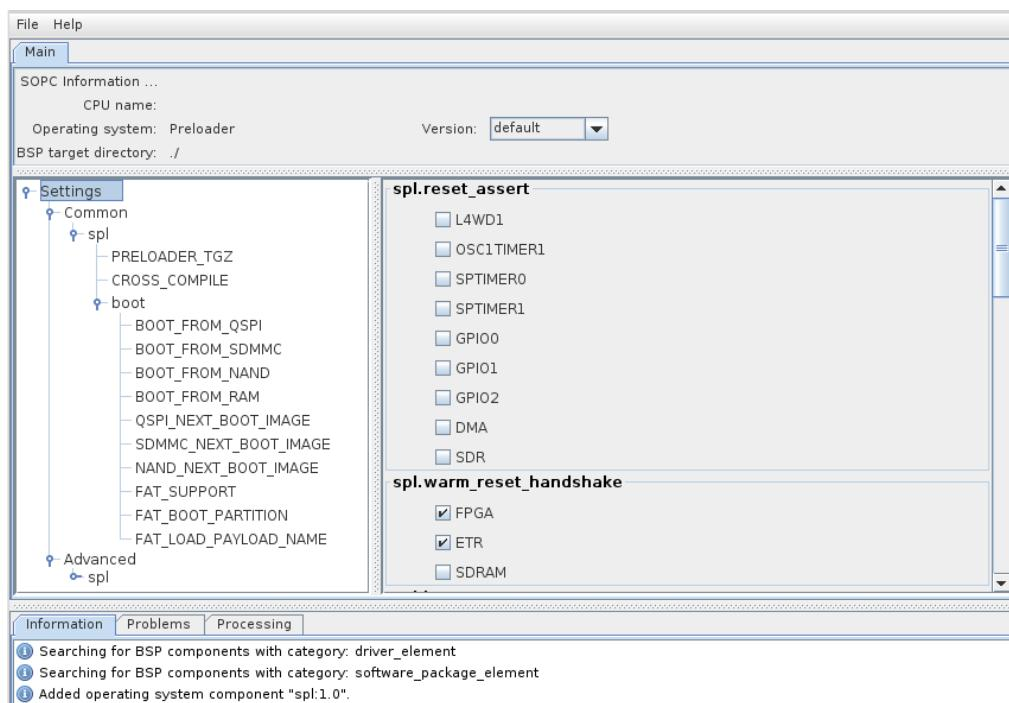

Figure 13-2. Preloader Settings Dialog
- c. Press the “OK” button. You should then arrive on a page with many settings, as shown on Figure 13-2. Take some time to read through them to see what the preloader has the ability to do.
3. On the main settings page of Figure 13-2, we will only need to modify 3 parameters for our design.